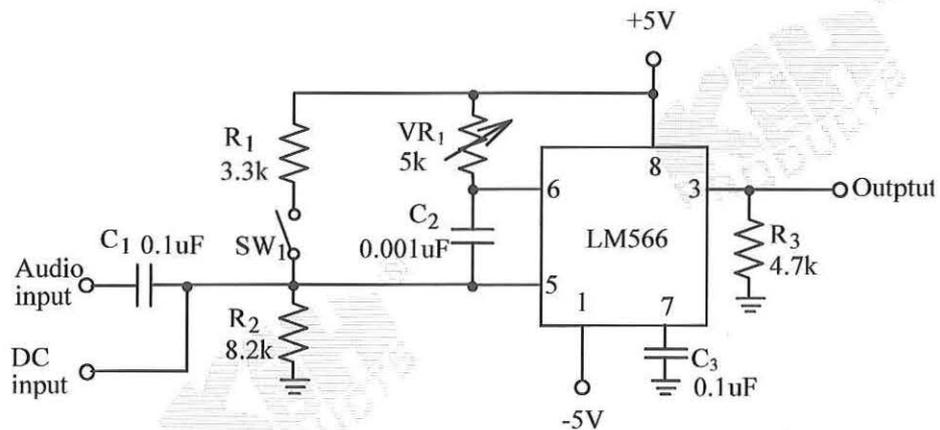

Fig.7-5 LM566 frequency modulator circuit
The circuit of Fig. 7-5 is a frequency modulator based on voltage-controlled oscillator (VCO) IC, LM566. If the SW1 is open, this circuit is a typical VCO whose output frequency is determined by the values of C3 and VR1, and the audio input voltage. If the values of C3 and VR1 are fixed, the output frequency is directly proportional to the voltage difference between pins 8 and 5, (V8-V5). In other words, an increase in audio input voltage (V5) causes a decrease in the value of (V8-V5) and a decrease in the output frequency. Conversely, decreasing the audio input voltage (V5) will cause the output frequency to increase. As discussed above, the values of C3 and VR1 can also determine the output frequency, which is inversely proportional to the product of VR1 and C3. That is, the greater the VR1×C3 value the lower the output frequency.
3. Reviewing the circuit of Fig.7-5, what is the function of R1 and R2 when the SW1 is closed?